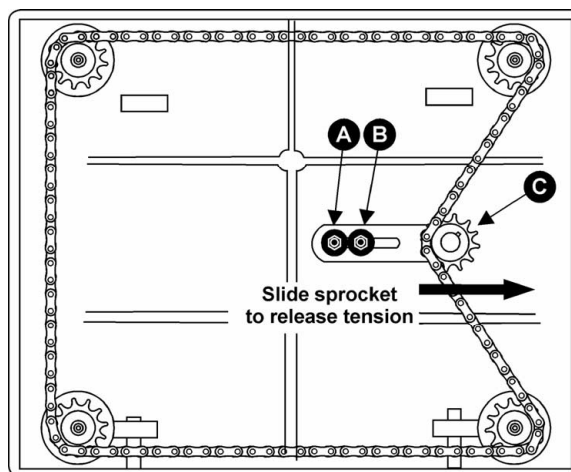

Figure 22
2. Tilt planer on its side to expose underside of base, as shown in Fig. 22.
3. Remove bolt (A, Fig. 22) and loosen bolt (B, Fig. 22) which will allow you to move the idler sprocket assembly (C, Fig. 22) far enough to release tension on the chain.
5. When adjustments are correct, replace chain around corner sprocket, slide sprocket (C, Fig. 22) back to re-tension chain, tighten bolt (B, Fig. 22) and replace and tighten bolt (A, Fig. 22).